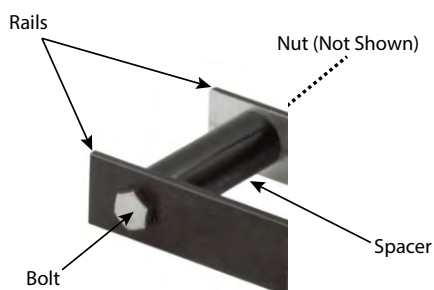

Figure 10: Secure rails to spacers
2. Position a spacer between the rails at each end. See *Figure 10*.